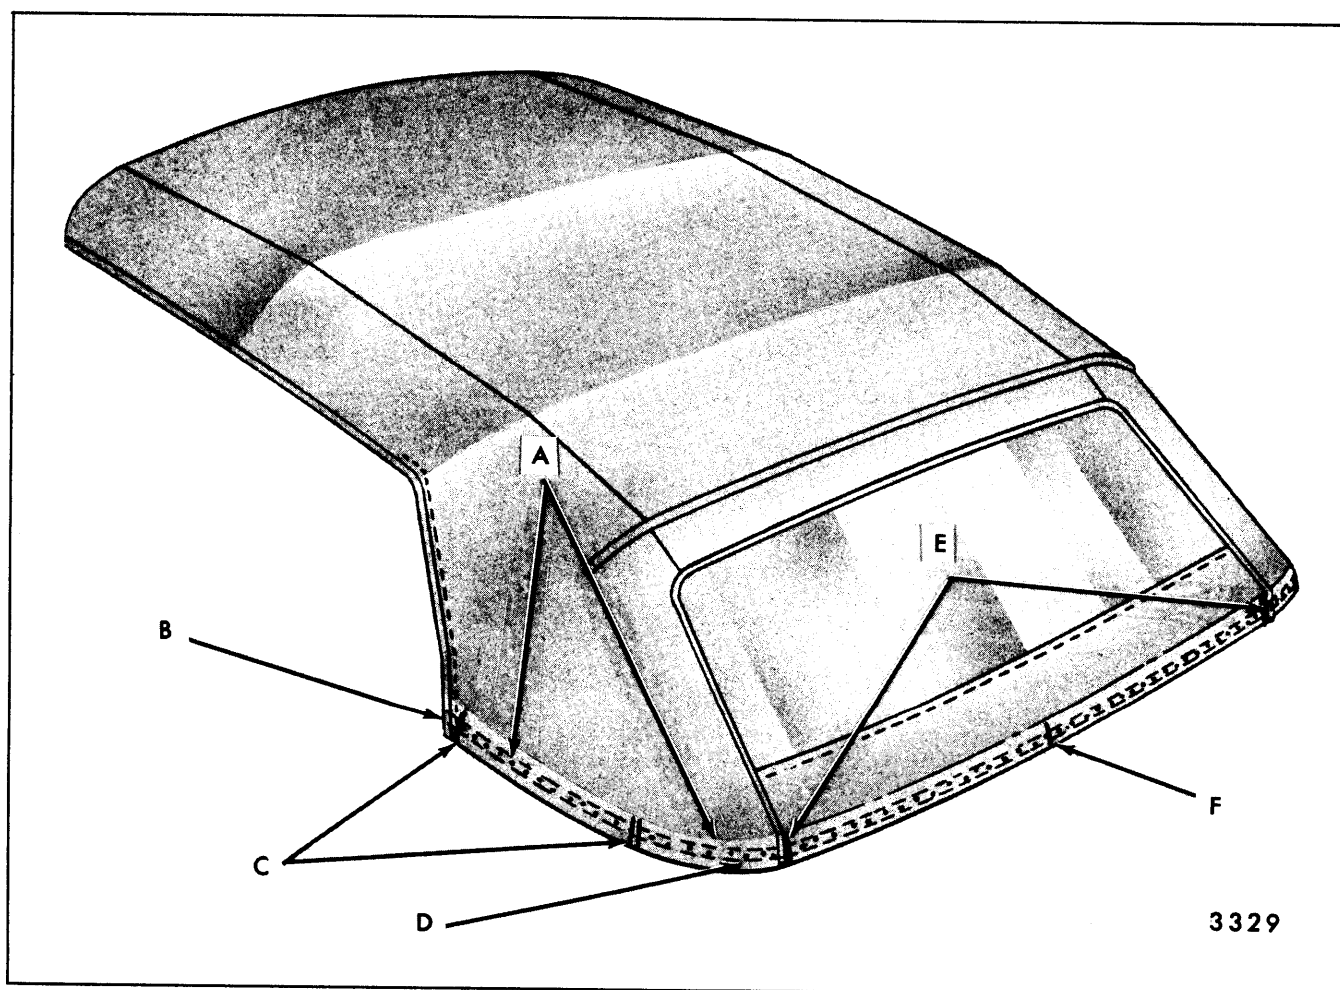

Fig. 13-24—Reference Marks on Top Cover and Back Curtain
Transfer location marks for trimstick(s) (upper and lower trimstick edges, as well as ends, Fig. 13-24).
6. As a bench operation, position and locate top cover to trimstick(s) according to reference marks and tack top cover to trimstick(s). Tack from top cover inner vertical edge reference on back curtain toward front. Avoid excessive stretching, but keep material flat during tacking operations (Fig. 13-24).
2. Mark position of top cover vertical edges on back curtain valance at rear belt line. Use sharpened grease pencil (Fig. 13-24).
12. Using a suitably sharp pencil, accurately mark location of complete rear trimstick(s) (upper and lower edges, and ends) on outer surface of top cover. Re-check, and mark right and left inner vertical edge of top cover on back curtain at trim stick (Fig. 13-24).
2. Place folding top cover on folding top framework. Then, position and locate top cover to trimstick(s) according to reference marks, and tack top cover to trimstick(s). Tack from top cover inner vertical edge reference on back curtain toward front. Avoid excessive stretching, but keep material flat during tacking operations (Fig. 13-24).